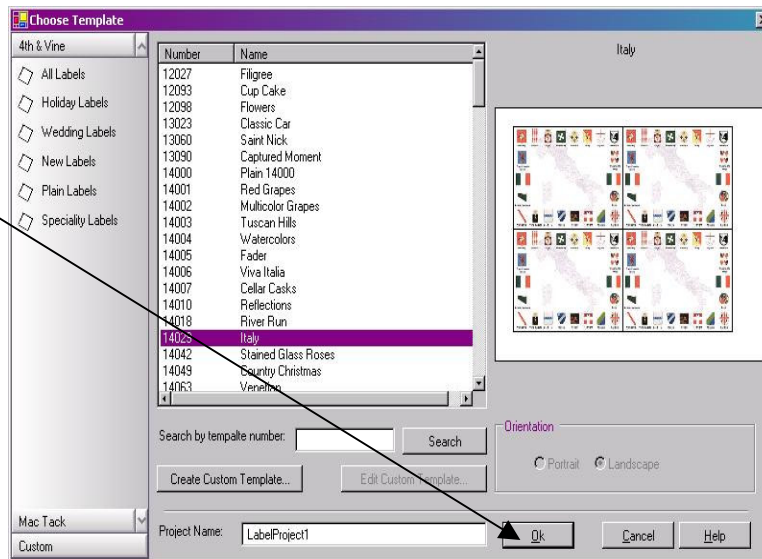

Figure 3.1.5: Chosen template
3. Click the  button once you have selected the template you want to use (see Figure 3.1.5).